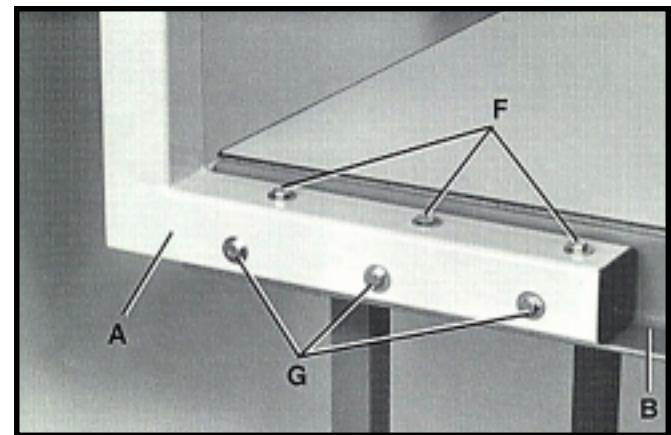

Fig. 7
- 11 - 1/4" bushing (2)
- 13 - 5/16-18 x 5/8" button screws (2)
- 14 - 5/16" bushings (2)
4. Fasten the mounting bracket (A) Fig. 7, to the back rail (B) using the three 2-3/4" long hex head screws (F); three 3-3/4" long hex head screws (G); twelve 1/4" flat washers; and six 1/4-20 hex nuts.